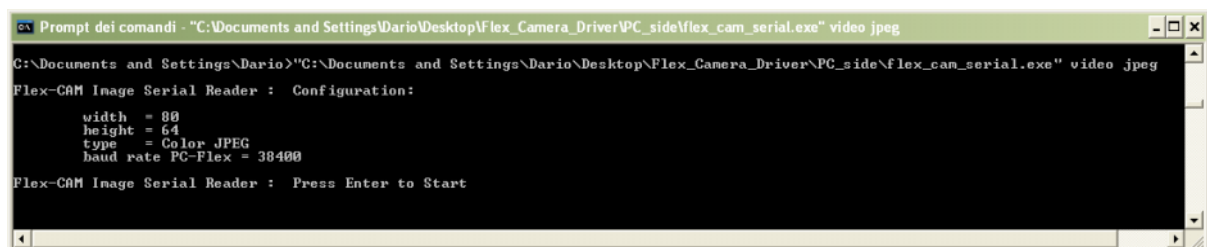

Figure 5 – PC side Demo start
- Re-execute the executable file with the desired attribute (for example: video jpeg) to start the demo (refer Figure 5 below)